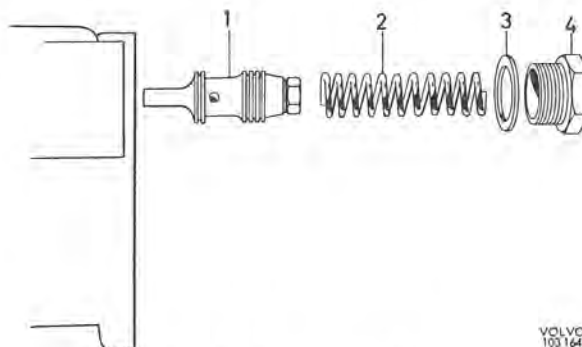

Fig. 6-54. Removing control valve
- b) Remove the pump control valve, see Fig. 6-54. Observe the utmost cleanliness. Wash and blow clean before screwing out the plug (4, 6-67), which should be done from underneath.